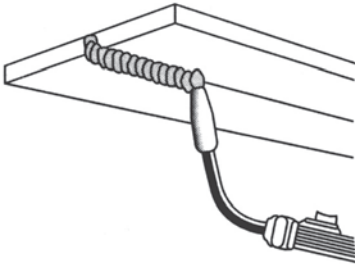

Figure 17. Overhead Position
4. The OVERHEAD POSITION (Figure 17) is the most difficult welding position because gravity is pulling at the weld puddle trying to make it drip off the work piece. Angle A (see HOLDING THE TORCH - p.16) should be maintained at 60 degrees, the same as in the flat position. Maintaining this angle will reduce the chances of molten metal falling into the nozzle should it drip from the weld puddle. Angle B should be held at zero degrees so that the wire is aiming directly into the weld joint. If you experience excessive dripping of the weld puddle, select a lower heat setting. Also, the weave bead tends to work better than the stringer bead when welding overhead.